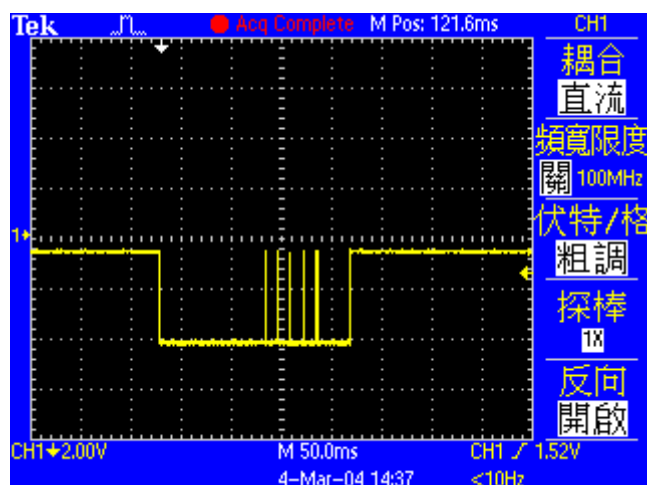
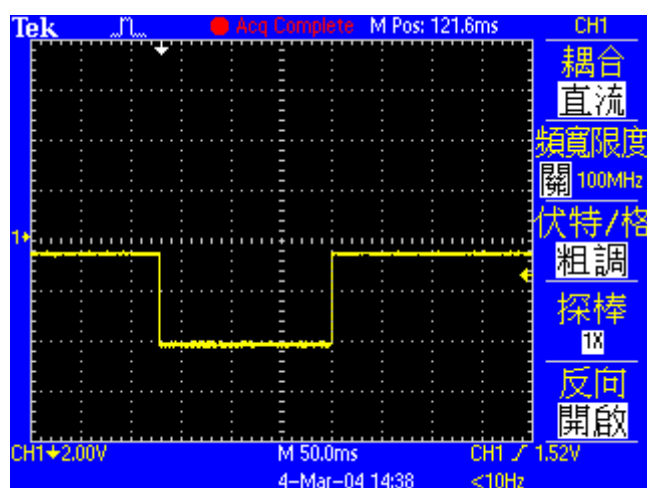

Figure 5.5.2 In-position signal when debounce time is set to 0 ms.
Figure 5.5.3 In-position signal when debounce time is set to 3 ms.
- (1) Set **Target radius** and set **Debounce time** to 0 ms. Let the motor move for a period of time and observe in-position signal from oscilloscope, as figure 5.5.2. When the motor is in-position, in-position signal is at high level. In figure 5.5.2, there are six protruding pulses as the motor moves close to the target position. Observe the time duration of protruding pulse.
- (2) From figure 5.5.2, the longest time duration is 1.5 ms. Set debounce time to a value which is slightly larger than 1.5 ms. Considering safety factor, set debounce time to 3 ms. Let the motor move for a period of time. In-position signal becomes stable as figure 5.5.3.